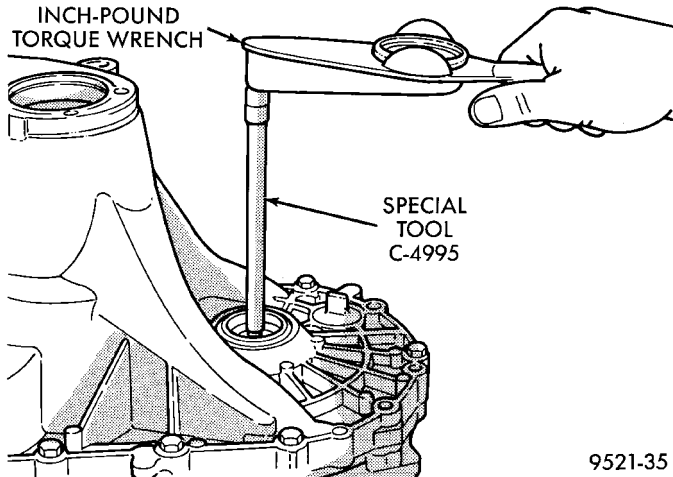

Fig. 77 Checking Differential Bearing Turning Torque
(7) The shim required for proper bearing preload is the **total of end play, plus (constant) preload of 0.18mm (0.007 in.)**. Never combine shims to obtain the required preload.
(8) Remove case bolts. Remove clutch bellhousing differential bearing cup. Install shim(s) selected in Step 7. Then press the bearing cup into clutch bellhousing.
(9) Install clutch bellhousing. Install and torque case bolts to 26 N·m (19 ft. lbs.).
(10) Using Special Tool C-4995 and an inch-pound torque wrench, check turning torque of the differential assembly (Fig. 77). **The turning torque should be 6 to 12 in. lbs. If the turning torque is too high, install a 0.05mm (0.002 inch) thinner shim. If the turning torque is too low, install a 0.05mm (0.002 inch) thicker shim.**
(11) Recheck turning torque. Repeat Step 10 until the proper turning torque is obtained.